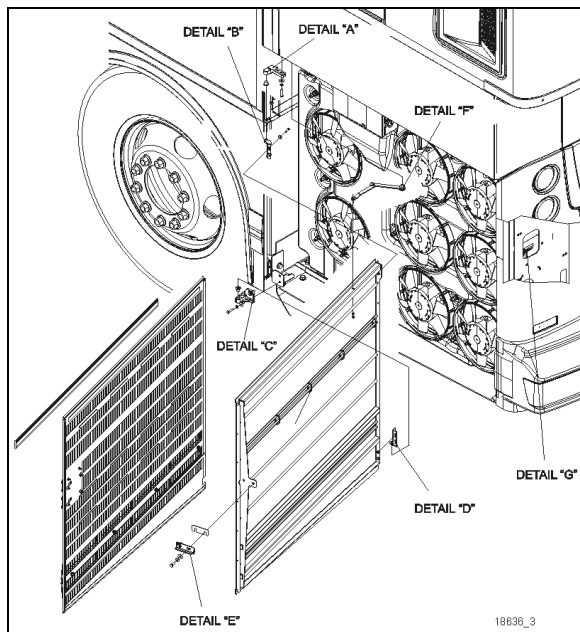

FIGURE 139: RADIATOR DOOR
- Loosen the bolts, (details "A" & "C", Figure 139) holding the hinge to the vehicle structure to shift the door "LEFT or RIGHT".
- Loosening the bolts (details "B" and "D", Figure 139) allows the door to be shifted "UP or DOWN".